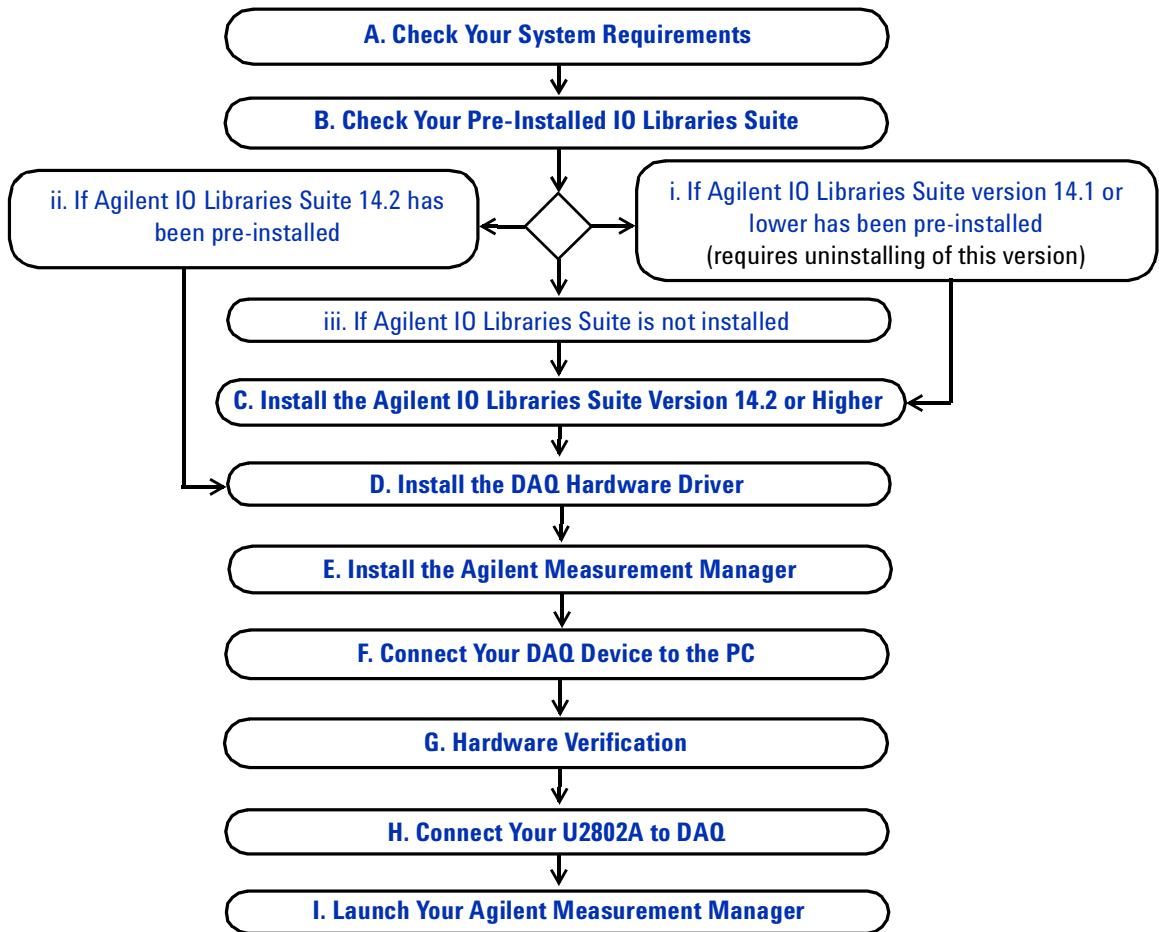

Figure 1-1 U2802A installation flowchart
- Figure 1-1 U2802A installation flowchart 8